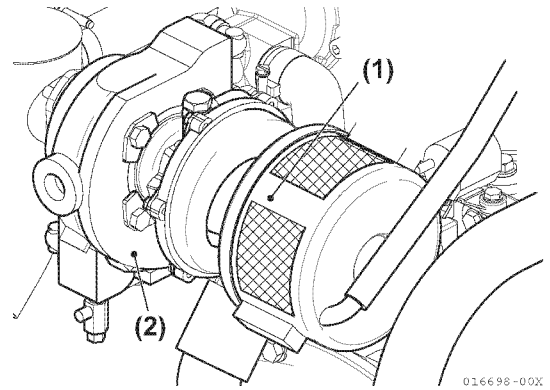
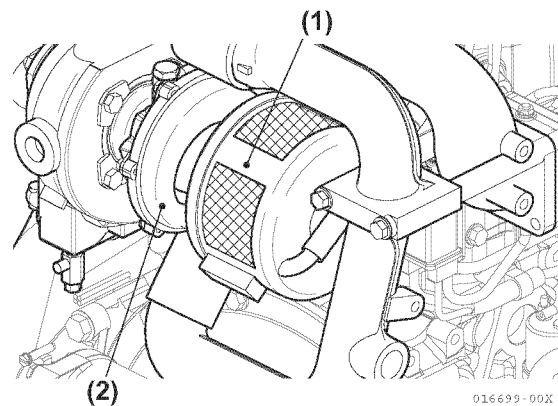

Figure 9-7
Figure 9-8
- Remove the air cleaner for the 4JH4-TE (Figure 9-7, (1)) and the 4JH4-HTE (Figure 9-8, (1)).
- Remove turbocharger for 4JH4-TE (Figure 9-7, (2)) and 4JH4-HTE (Figure 9-8, (2)).